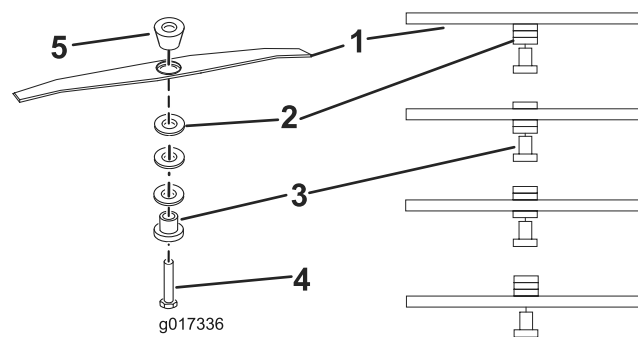

Figure 13
5. Reposition the spacers to the desired height, then reinstall the cutterbar (Figure 13).